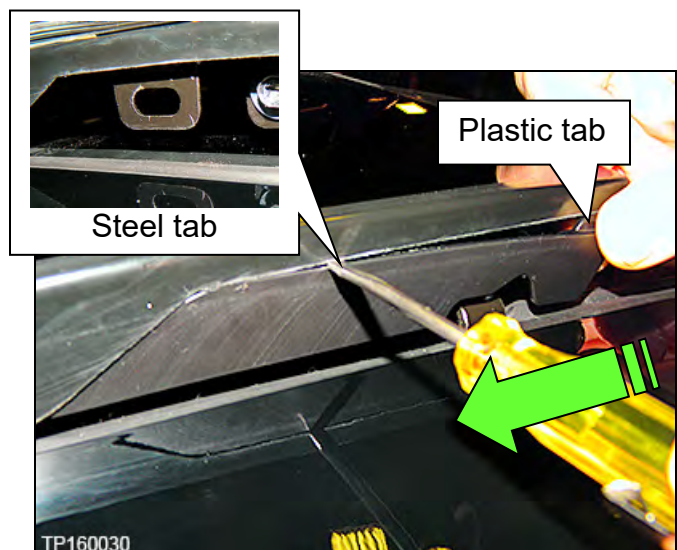

Figure 53
- c. Insert a pocket screwdriver between the Moonroof bolt finisher and the Moonroof near the plastic tab (Figure 53).
- d. Apply a slight downward force to the plastic tab end of the Moonroof bolt finisher until the hole through the steel tab can be seen (Figure 53).
- e. Slide the pocket screwdriver from the plastic tab up to the hole in the steel tab that the Moonroof release clip is connected to (Figure 53).